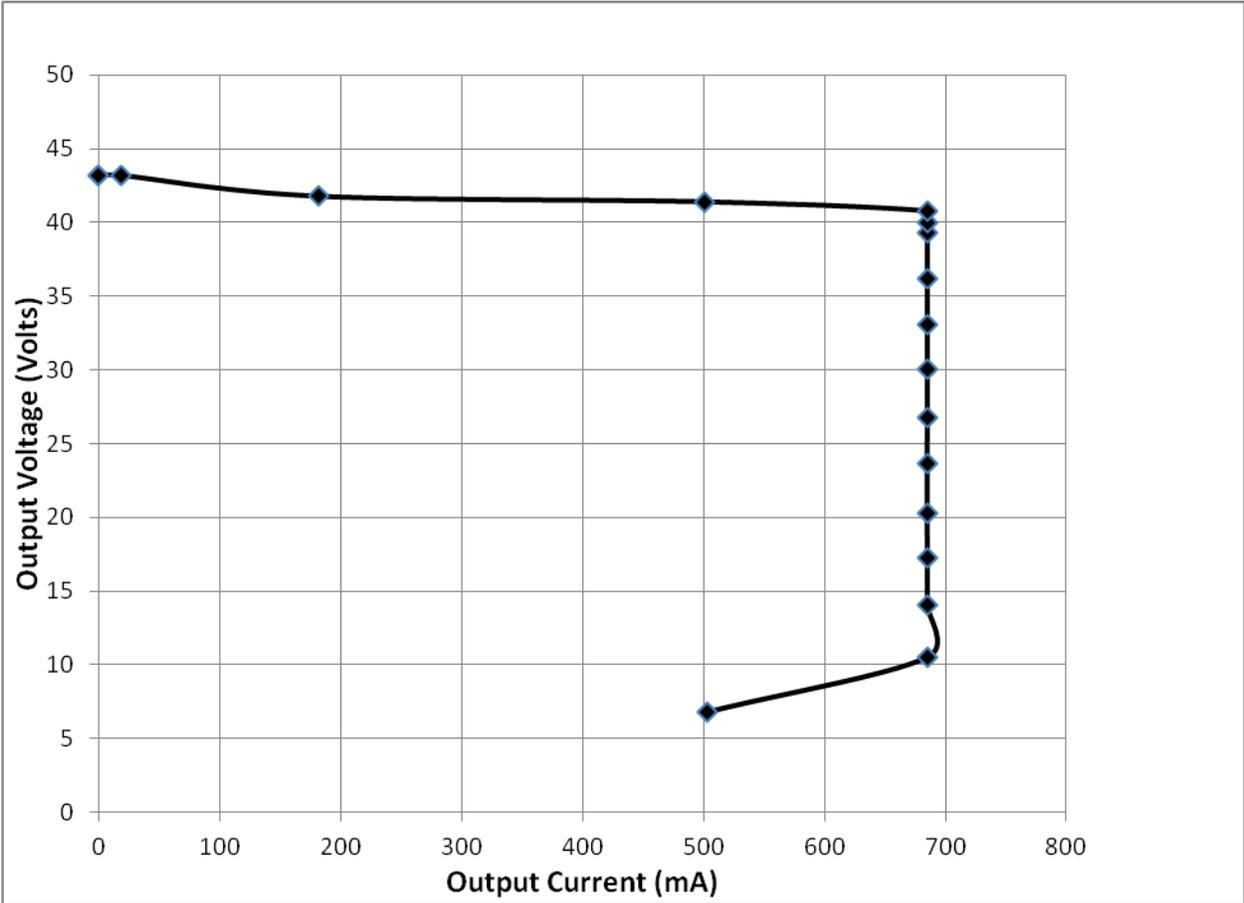

Figure 1 – Typical Current Transfer Function
4. Increase AC source voltage to 115 Vac. Adjust the electronic load from no load slowly up until the output voltage reduces to between 34 and 39 volts. The output current should be within the range of 665 to 735 mA. Record the measured load current for future reference. Figure 1 shows a typical voltage/current regulation curve for this driver operating at 115 Vac input.